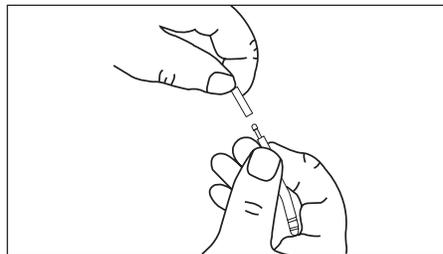

Figure 2. Insertion of Band Tubing End Plug
8. Insert the end plug into the tubing end until the stainless steel tubing connector disappears into the open end of the band fill tube - this will facilitate pulling the tube around the stomach (Figure 2). The tubing can be slippery. Using 4x4 gauze sponges will help grasp the tubing.